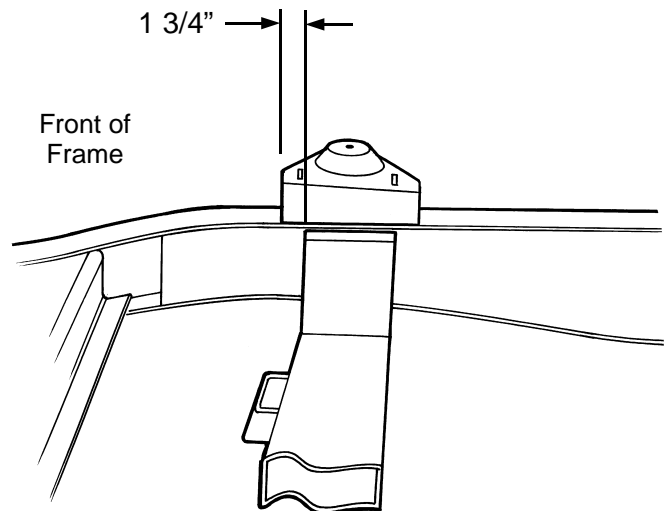

Figure 5
7. Next are the spring towers. They sit on top of the frame rails, and are located $1 \frac{3}{4}$ " forward of the crossmember, as shown in Figure 5. Clamp in place, double check your dimensions, then weld all around, including the gusset flanges on the sides of the rails. For added strength, you can also weld the inside of the gusset flanges.